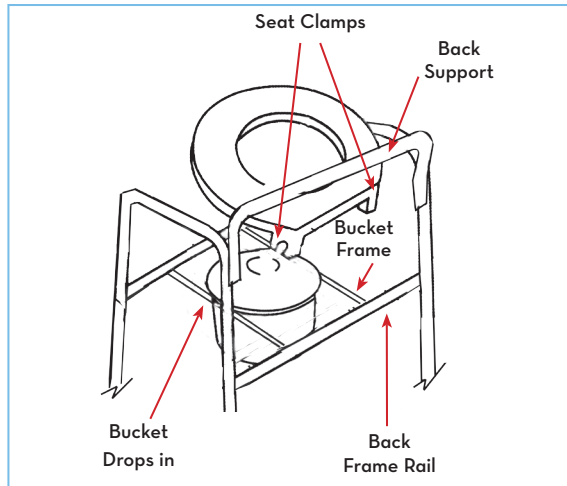

figure 1
4. Make certain that the height adjusting snap buttons fully protrude through the same respective hole of each leg extension. This will ensure that the leg extensions are securely locked in position and an even height is achieved (see Figure 1).